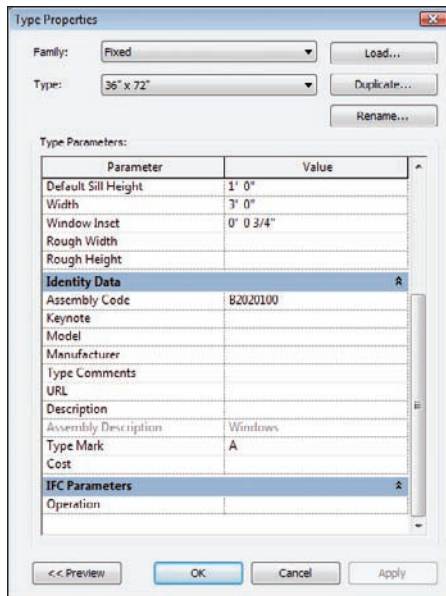

FIGURE 2.81 Changing a type parameter changes every window of that type.
4. Scroll down until you see Type Mark. Notice this value is set to A. This is the property you changed by typing the value into the tag in the model. Revit works both ways. If you change a symbol in the model, it will change the parameter value within the family (see Figure 2.81).